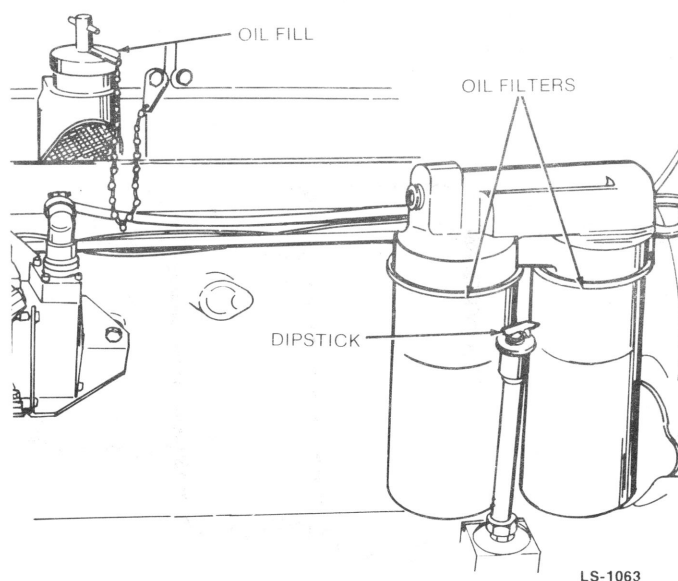

FIGURE 18. OIL FILL AND DIPSTICK LOCATIONS
2. Fill crankcase to "L" (low) mark on dipstick (Figure 18).